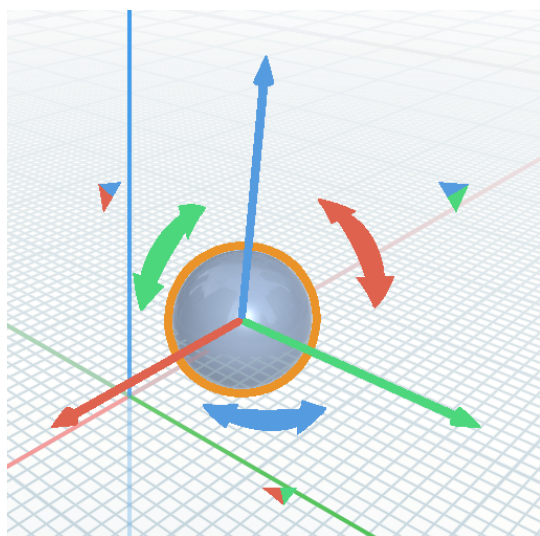
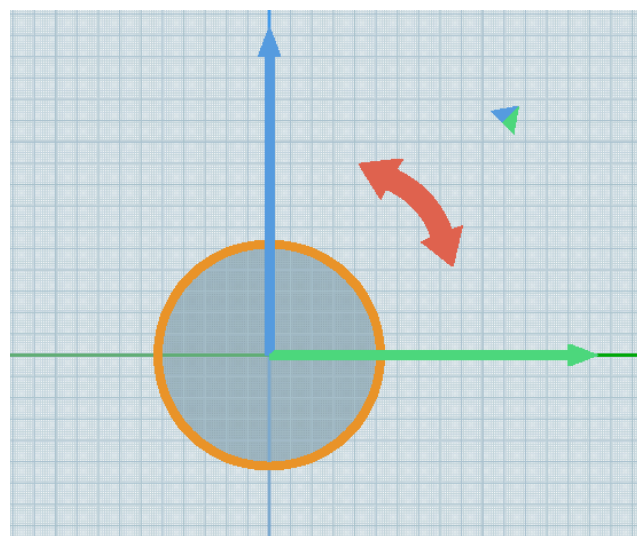

Figure 62 – Parametric shape in Gizmo mode.
Figure 63 – Parametric shape in Gizmo mode.
- in Gizmo mode, when editing mode is turned off (Figure 62, Figure 63). Then the GIZMO transition and rotation manipulators are displayed — the shape can be moved and rotated. But the shape cannot be scaled until it is converted or turned into a spline, so the scaling Gizmos do not appear (see 2.9 GIZMO manipulators). The **Edit** button in the context menu is inactive: .